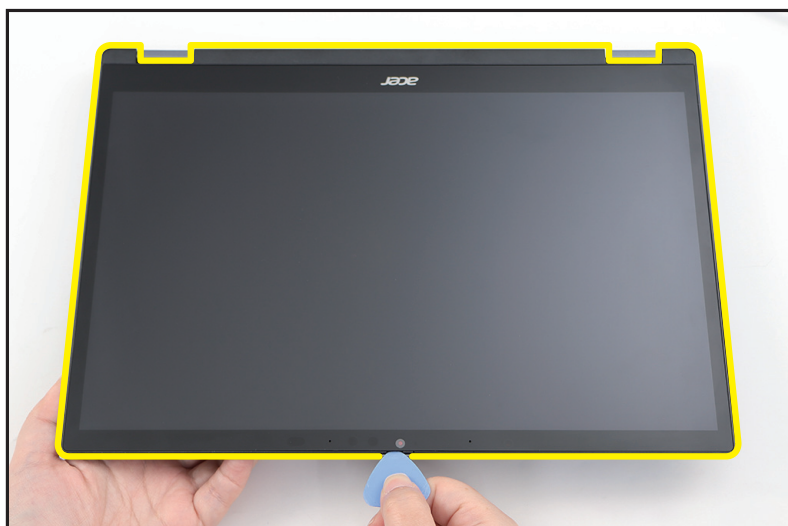

Figure 1-65. LCD Panel Removal
2. Pry around the bezel of the LCD panel to release the latches from the LCD cover (Figure 1-65).